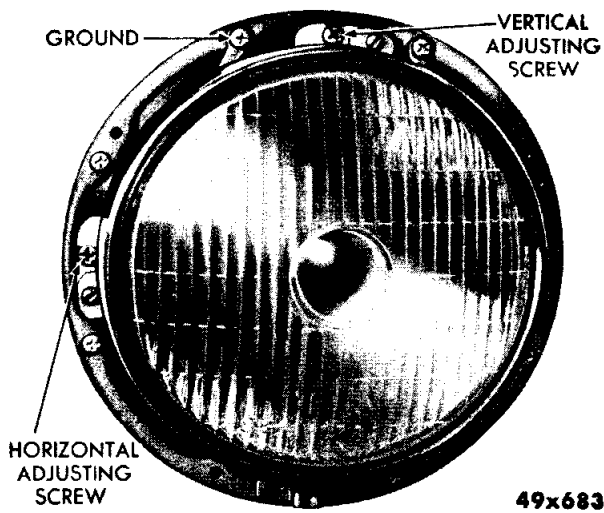

Fig. 31—Headlight Adjustment
- (1) Remove screw at bottom of headlight rim and unhook rim at top by pulling it outward.
- (2) To raise or lower beam, turn adjusting screw in center at top of headlight frame.
- (3) To move beam to right or left, turn adjusting screw at left side of headlight frame, as shown in Figure 31.